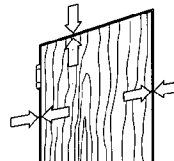

Fig. 6
6. Looking at the hinge side of the door when it is closed, there should be a uniform perimeter clearance of 1/8" between the door and the door jamb (Fig. 6).